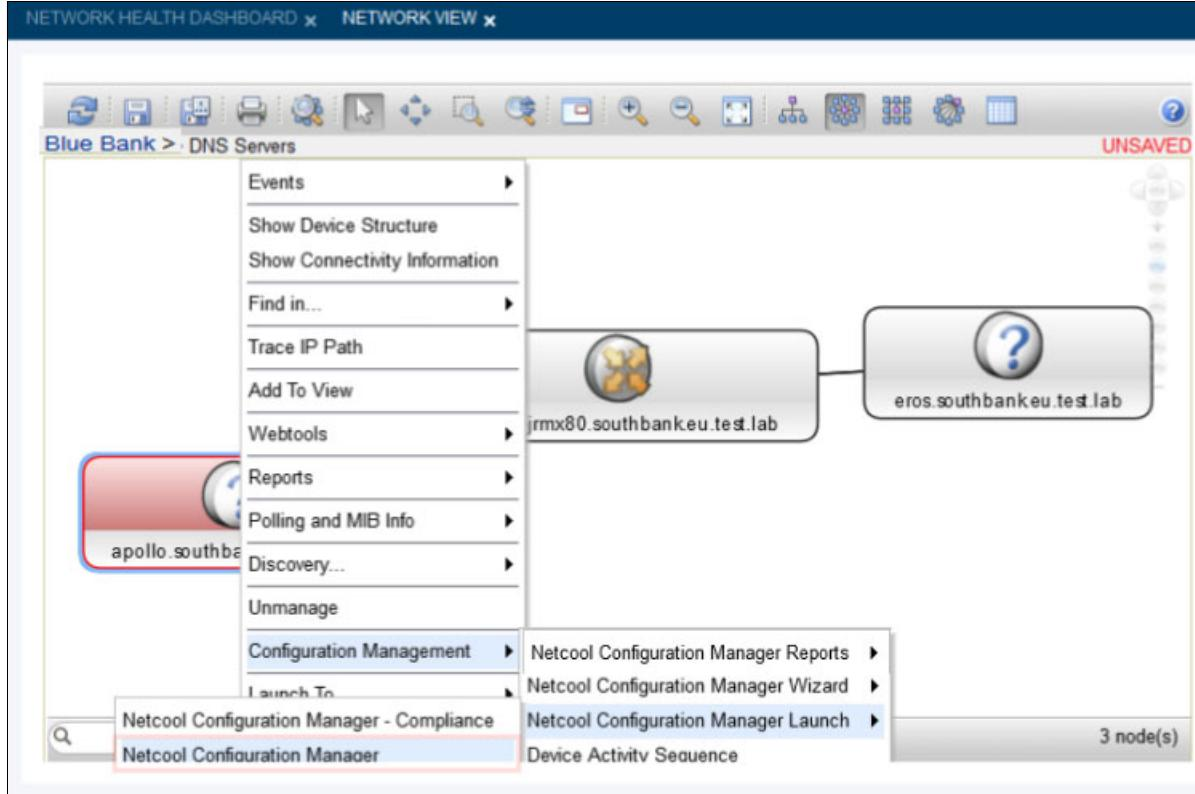

Figure 2-37 Starting Netcool Configuration Manager for the Secondary DNS Server
12. Within the Network View tab, Brock starts the Netcool Configuration Manager in the context of the Secondary DNS Server, as shown in Figure 2-37.